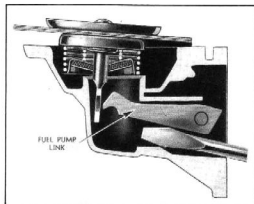

Fig. 14—Installing Diaphragm Spring
2. Raise the fuel pump link with a screwdriver, Fig. 14, install the diaphragm spring and hook the diaphragm pull rod over the end of the link.